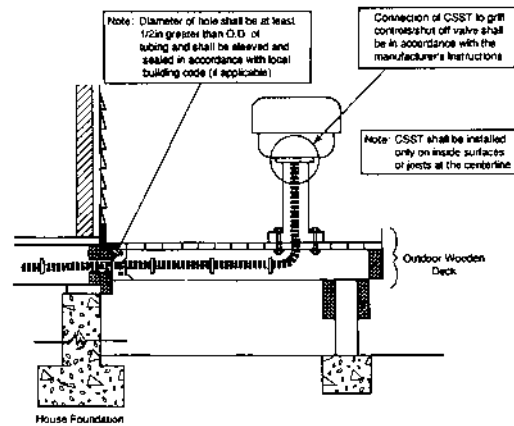

Figure: 4-38
2. Permanently mounted grills located on decks shall be connected with the **TracPipe® CounterStrike®** system as shown in Figure: 4-38—and in accordance with this guide. The outdoor portion of the piping shall be supported against the side of any of the inside deck joists. If the elevation of the deck is below the top of the foundation, any exposed piping shall be protected using water-tight non-metallic conduit.
3. Permanently mounted lights located on decks shall be connected to the piping system the same as permanently mounted grills shown in Figure: 4-38 and in accordance with the manufacturer's instructions.